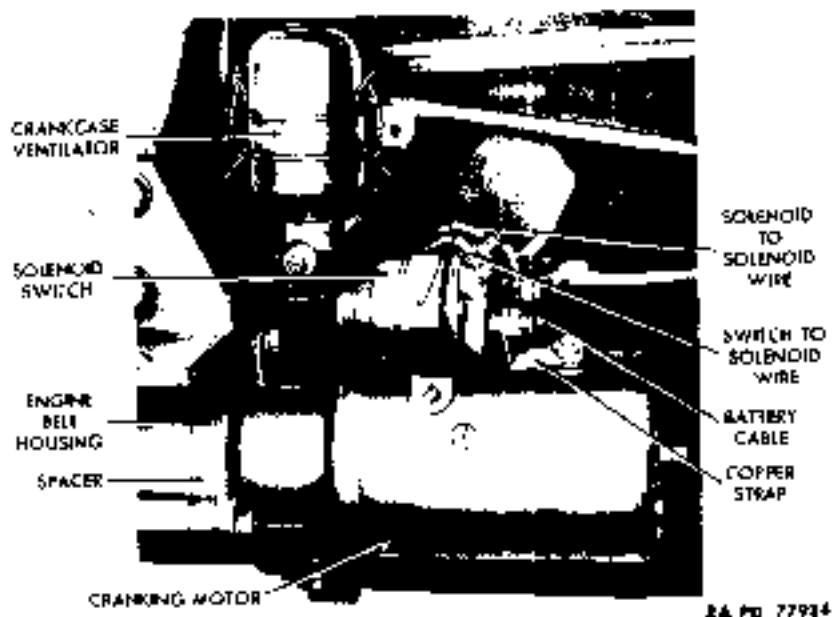

Figure 50 - Cranking Motor and Solenoid Installed
(1) **DESCRIPTION** (fig. 50). The conventional 12-volt cranking motor is located on the right side of the engine between engine and frame side rail, and is accessible through the right-hand splash shield opening and from under the truck. A cranking motor drive, attached to the end of armature shaft and enclosed in a cast iron housing, engages the flywheel ring gear to crank the engine. Drive housing and cranking motor are secured to each other by the main frame screws.
(2) DISCONNECT SOLENOID SWITCH FROM CRANKING MOTOR (fig. 50) (par. 90 b (3)).
(3) DETACH CRANKING MOTOR FROM ENGINE (fig. 50). Remove the three cap screws and lock washers which attach cranking motor to engine bell housing. Two screws can be reached through splash shield opening and one from under truck. Lift cranking motor and spacer from engine and from under truck.
(1) ATTACH CRANKING MOTOR TO ENGINE (fig. 50). From under truck, place spacer and cranking motor in position on engine bell housing. Install three cap screws and lock washers which secure motor to engine.
(2) CONNECT SOLENOID SWITCH TO CRANKING MOTOR (fig. 50) (par. 90 a (1)).
(3) TEST INSTALLATION. Push cranking switch, and check cranking motor operation.
(1) **DESCRIPTION** (fig. 50). This solenoid switch is located directly on top of cranking motor, and can be reached by removing right-hand floor board. This switch, which provides a direct battery to cranking motor circuit, is similar to the conventional type relay or magnetic switch. When cranking motor switch is depressed, a coil within solenoid switch is energized. This coil produces a magnetic field which closes the solenoid's magnetic contacts. The contacts are heavy-duty high arc resisting, to withstand heavy current load.
(2) TABULATED DATA.
(2) **DISCONNECT WIRES FROM SWITCH** (fig. 50). Disconnect small red wire coming from harness, from switch top right terminal. Disconnect large red wire from harness and small red wire coming from switch front left terminal, from switch top left terminal. Remove battery cable and small red wire which goes to switch top left terminal, from switch front left terminal. Disconnect flat copper strap which goes to cranking motor terminal from switch front right terminal.
(3) **DETACH SWITCH FROM CRANKING MOTOR** (fig. 50). Remove the two screws and lock washers which secure switch to cranking motor, and lift switch from motor.
(1) **ATTACH SWITCH TO CRANKING MOTOR** (fig. 50). Position switch on cranking motor, and install the two lock washers and screws.
(2) **CONNECT WIRES** (fig. 50). On switch front right terminal, install flat copper strap from cranking motor terminal, lock washers, and nut. On switch front left terminal, install battery cable, small red wire which goes to switch top left terminal, lock washer, and nut. On switch top left terminal, install large red wire from harness and small red wire from switch front left terminal, lock washer, and nut. On